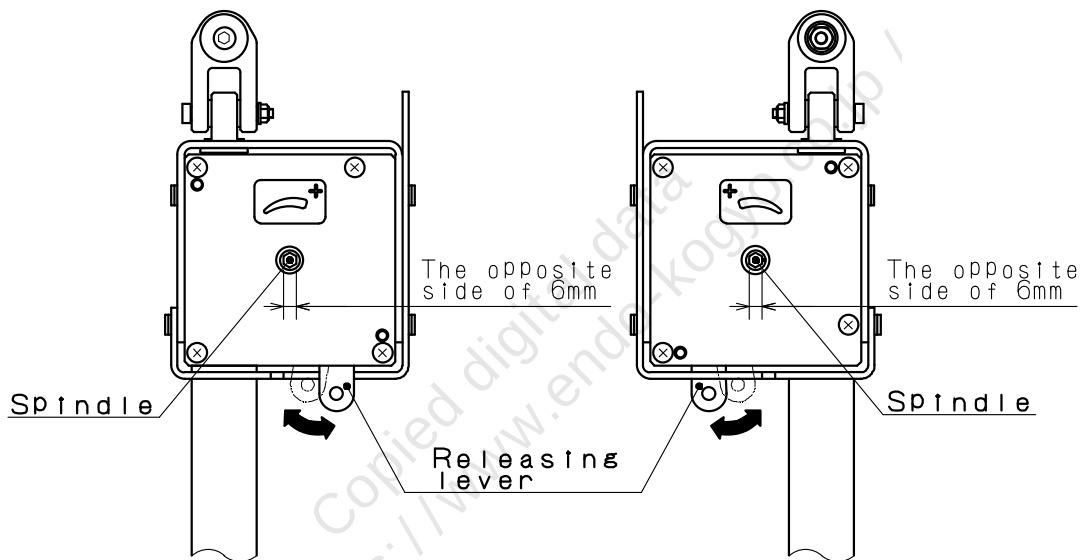

Fig.2
- 2) Increase the spring tension by turning the spindle to the + side with a hexagon socket screw key. (see Fig.2)